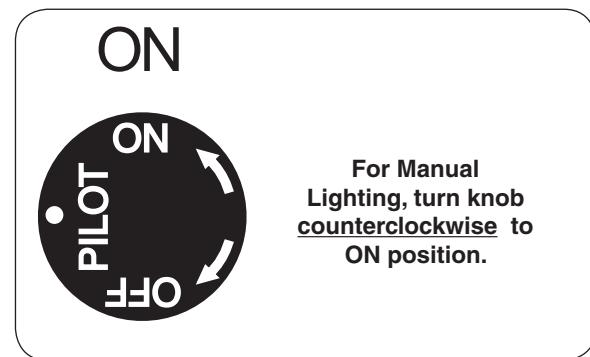

Fig. 21-3 Control knob detail (ON)
- Turn the gas control knob counterclockwise to **ON** (Fig. 21-3) to ignite the burner. The valve will open and the burner will light.